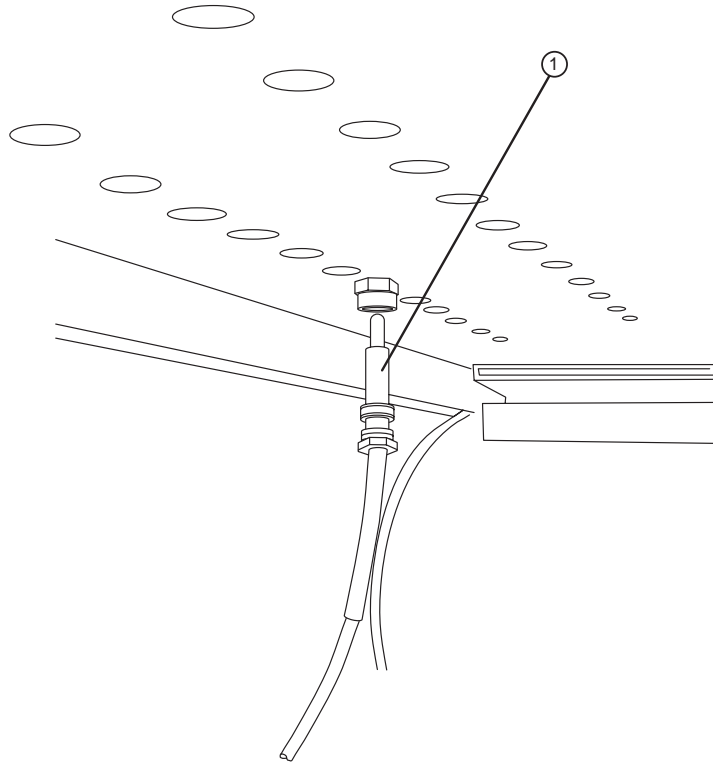

Figure 3-16 Dryer temperature sensor.
6. Pull the sensor out. Refer to Figure 3-16.